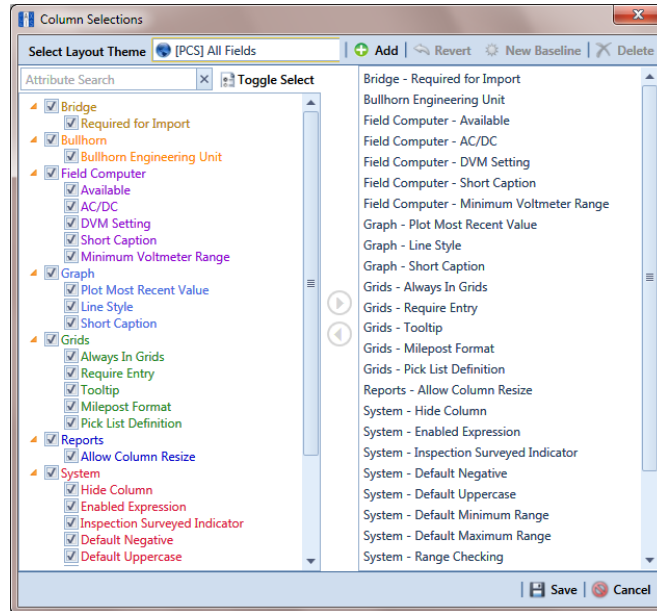

Figure 3-24. Column Selections
- 2 Click  **Customize** to open the *Column Selections* dialog box (Figure 3-24).
- 4 To remove one or more fields in the layout theme, complete one of the following steps (Figure 3-24, page 64):